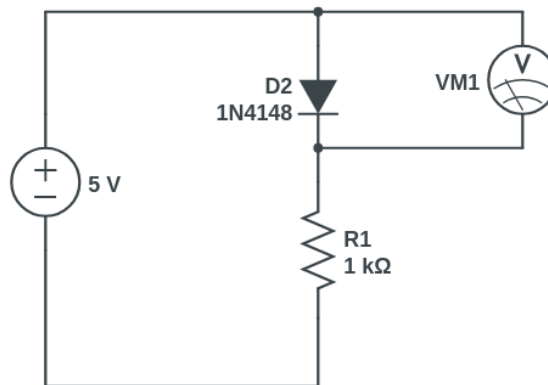

Figure 10: Diode in forward direction
2. Construct the circuit in Figure 10 on the breadboard.
A half-wave rectifier was actually already constructed in the previous exercise, Figure 10. When an AC source is used instead of a DC source the diode will only allow current to flow when the voltage is positive, and no current will flow when the voltage is negative. The output signal appears as a sine wave with only the positive cycles.
2. Build the circuit from Figure 10. Replace the DC source with the function generator.